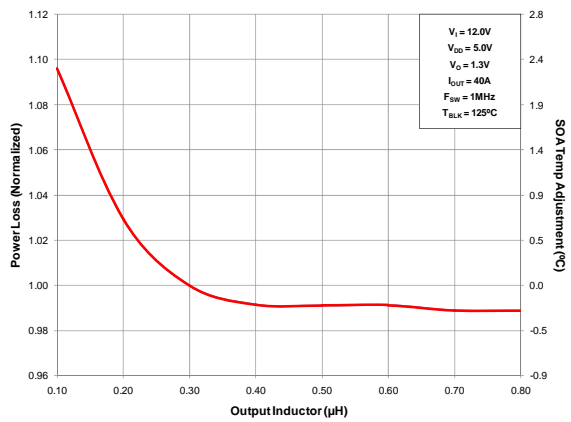

Figure 6 Normalized Power Loss vs. Inductance
- (Figure 6) Normalized power loss for output inductor \approx 1.03
- (Figure 6) SOA temperature adjustment for output inductor $\approx 0.6^\circ\text{C}$